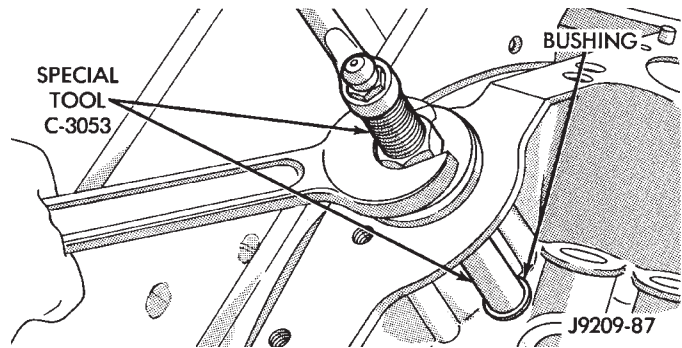

Fig. 36 Burnishing Distributor Driveshaft Bushing
(3) As the burnisher is pulled through the bushing, the bushing is expanded tight in the block and burnished to correct size (Fig. 36). **DO NOT ream this bushing.**